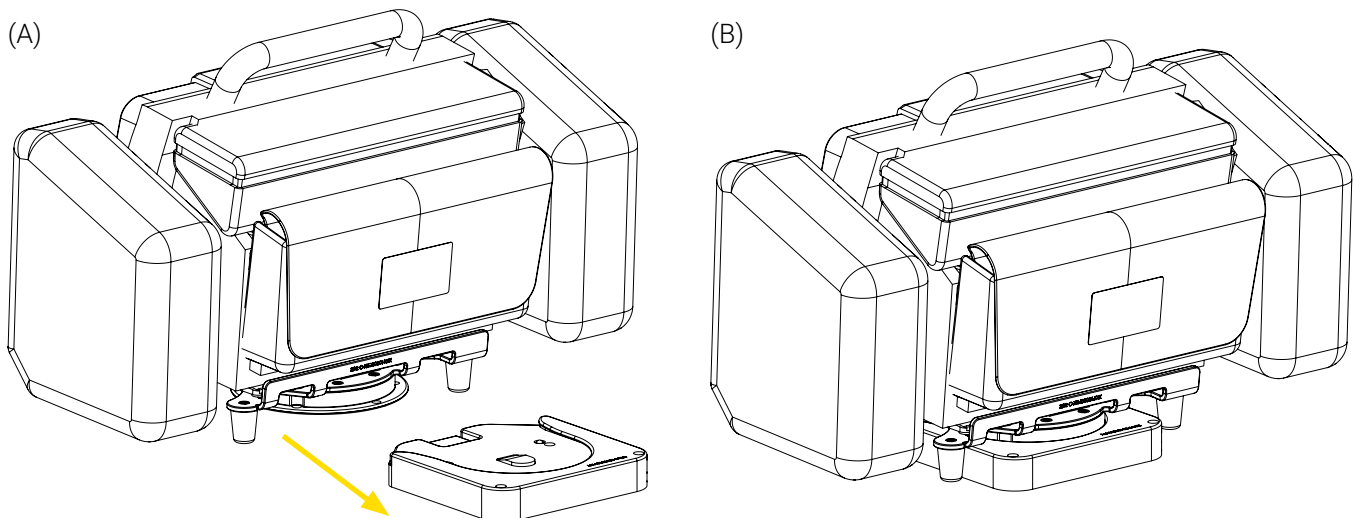

Figure 3: Installing the Bracket Pro Serie 35 - HD on the Standard Surface Base
2. Align the standard bottom disc with the Standard Surface Base (Figure 3 A).
3. Slide the standard bottom disc horizontally into the Standard Surface Base (Figure 3 B).